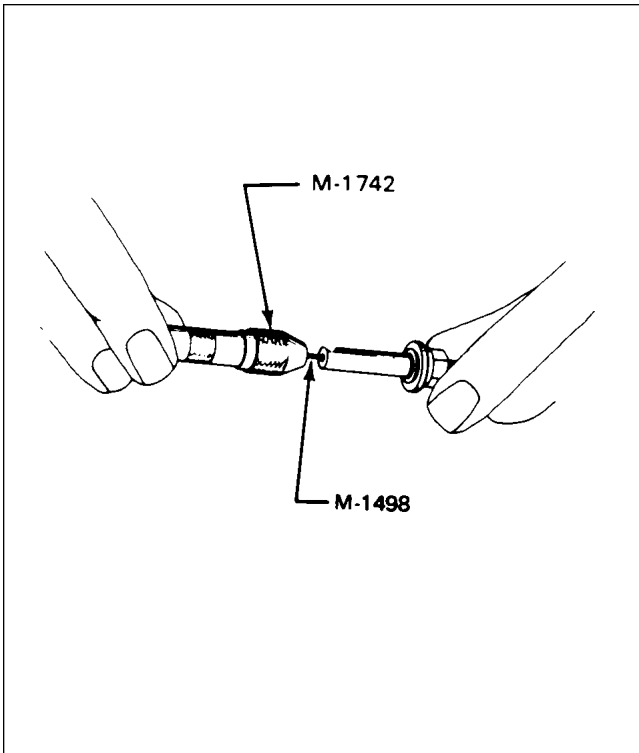

Figure 74-25. Installation of Electrical Screw
- m. Clamp threaded end of M-1498 electrode screw in M-1742 pin vise. Insert tapered pin of electrode screw into center of coiled conductor by turning pin vise counterclockwise and pushing at same time until screw is flush with insulation. This is done at both ends of the wire assembly. Refer to Figure 74-25.